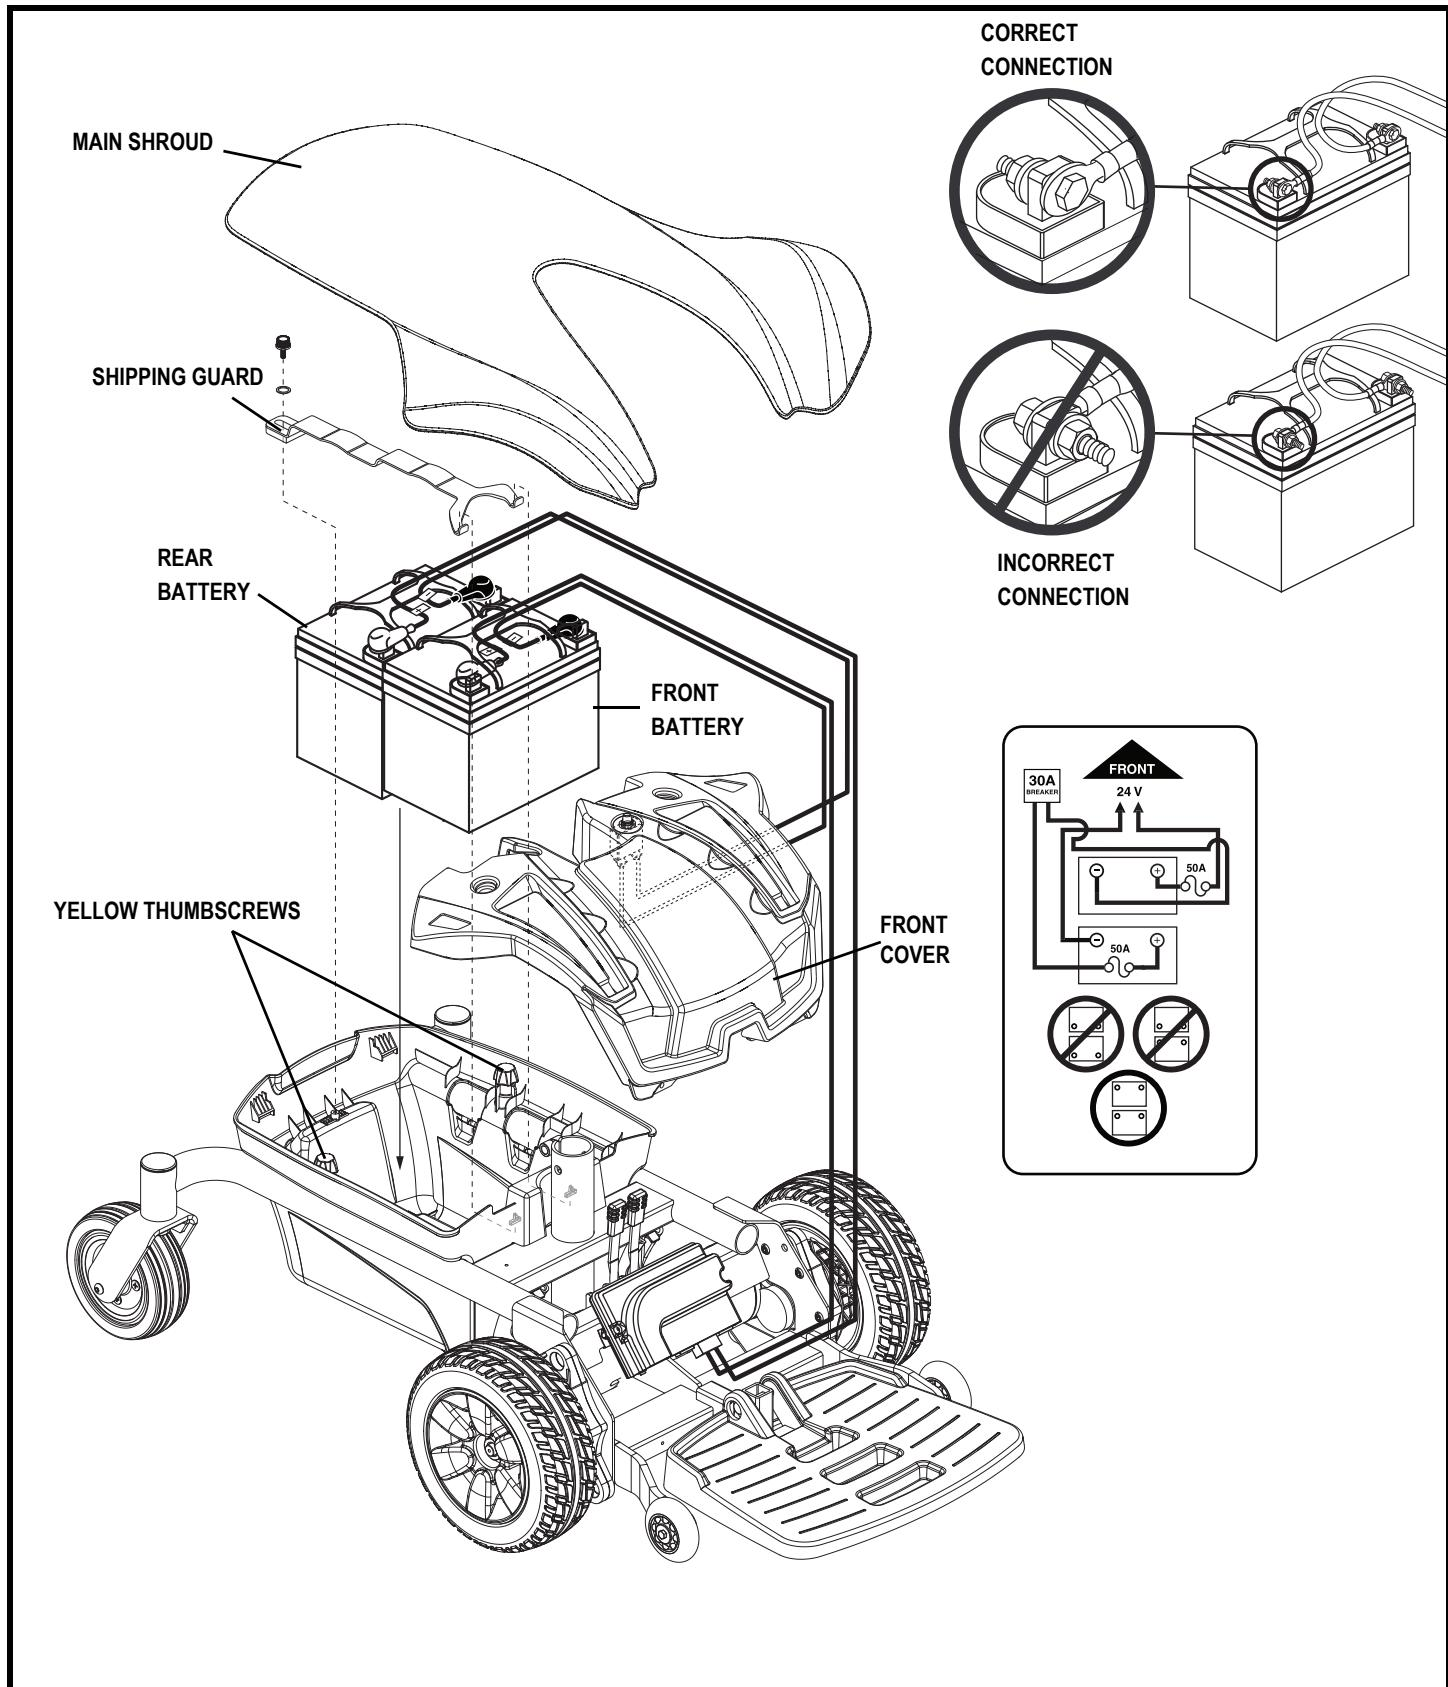

Figure 21. Battery Installation (Seat Removed for Clarity)
4. Remove the main shroud by lifting the rear of the shroud up and pulling the shroud back. See **figure 21**.
5. Remove the shipping guard if applicable. See **figure 21**.
6. Disconnect the battery cables from the battery terminals of each battery. See **figure 21**.
9. Install new batteries into the battery tray. Make sure the terminals of each battery are facing the front of the power chair. See **figure 21**.
11. Connect the front battery cable to the front battery terminals according to the battery wiring diagram. Make sure that the battery terminal hardware is facing the correct direction. See **figure 21**.
12. Connect the rear battery cable to the rear battery terminals according to the battery wiring diagram. Make sure that the battery terminal hardware is facing the correct direction. See **figure 21**.